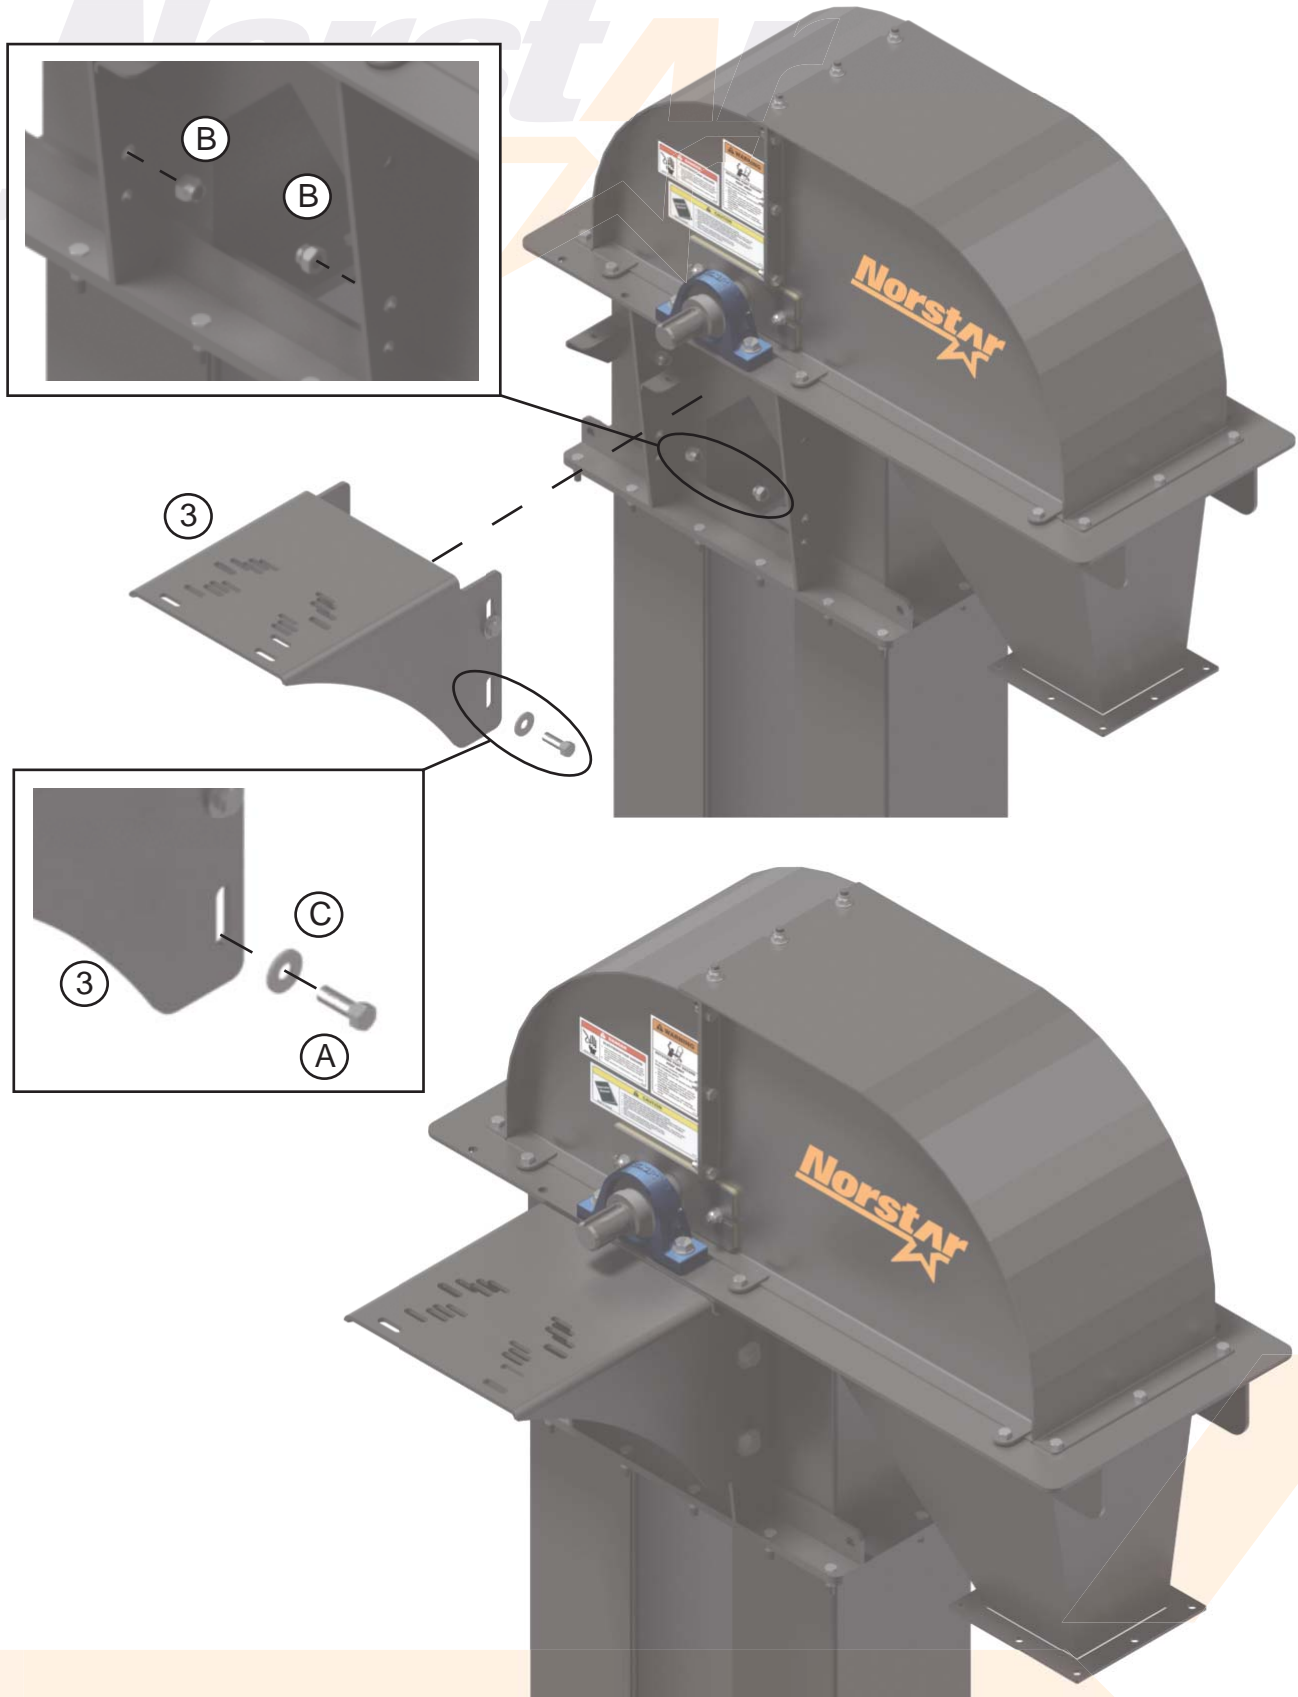
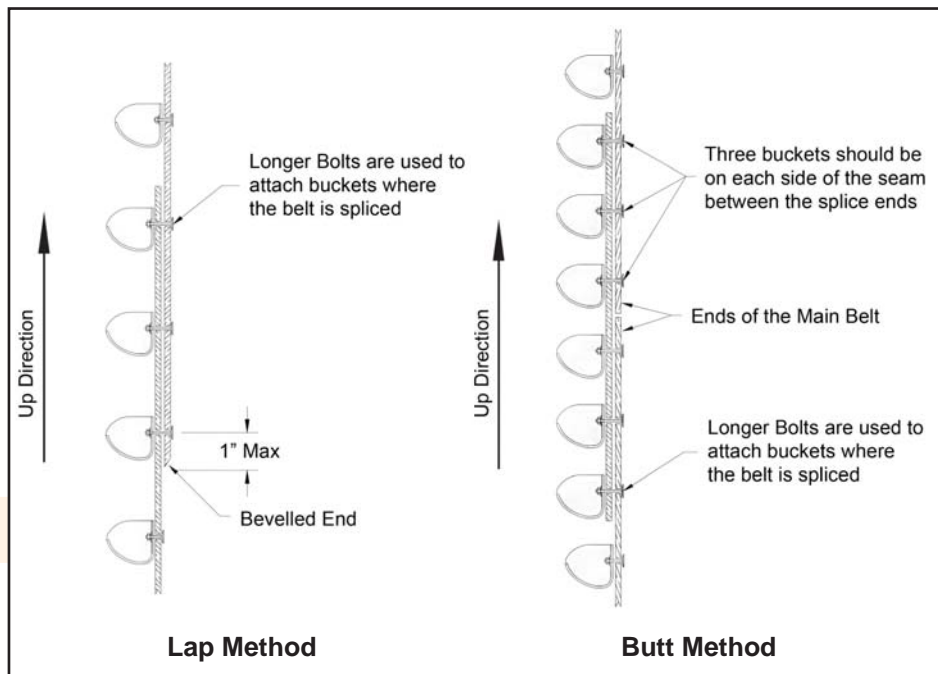

Figure 100
Figure 104
To install the belt, remove the Head Hoods and drop a thick rope or cable down the up leg. Taking the rope or cable through the Boot section or Service Trunking section, secure it to the end of the Belt. Pull the Belt up the Elevator, curve over the Head Pulley and lower the Belt down the Elevator through the down leg (see **Figure 100**). Once the Length of the Belting has been fed through the Elevator, the Belting needs to be spliced together. There are two (2) main methods (see **Figure 104**):